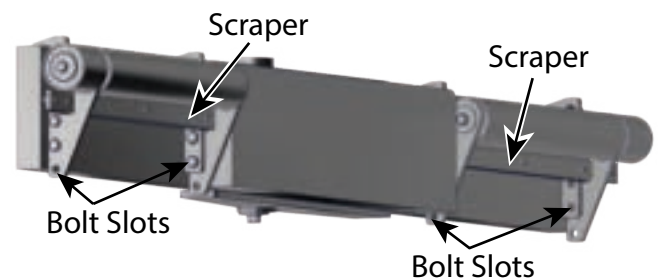

Figure 4-49. Adjustable Push Rollers
- Adjust truck push rollers to the appropriate height needed for asphalt truck. **(Figure 4-49)** Use truck hitch controls if equipped with this option. **(Page 4-35)**
- There are five (5) set heights on the truck push rollers.